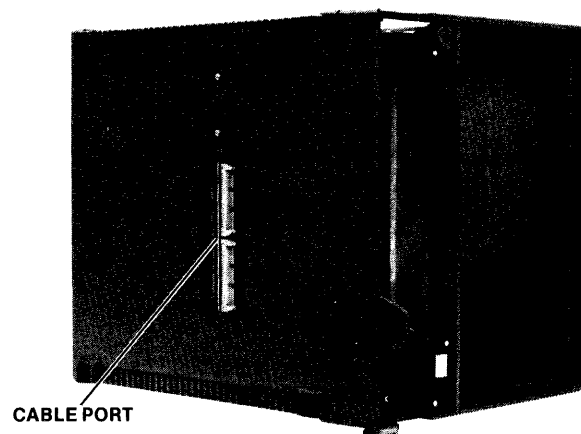

Fig. 4-19 Cable Port in Main Chassis
3. Remove the cable port cover on the bottom of the main chassis as shown in Figure 4-19.